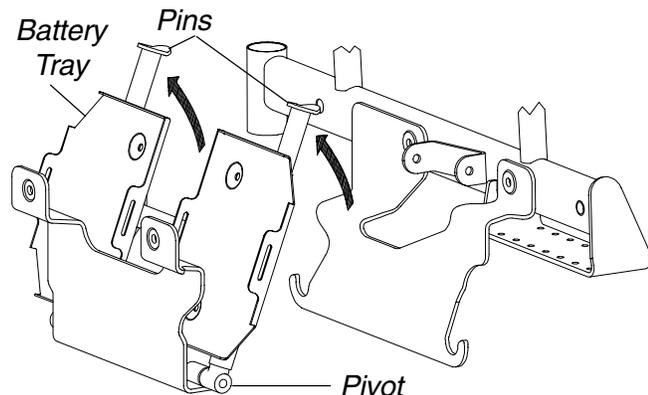

FIGURE 20 - BATTERY TRAY - FOLDING BATTERY TRAY FOR TRANSPORT
**Folding Battery Tray for Transport (FIGURE 20)**